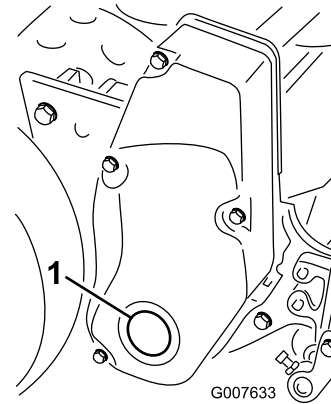

Figure 57
- Remove the plug in the right reel-drive cover (Figure 57).